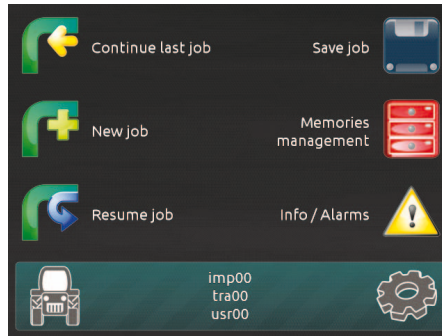

Fig. 232
- Switch Bravo 400S on (par 7.2). After self-diagnostics, Bravo 400S displays the "Home" screen (Fig. 232).